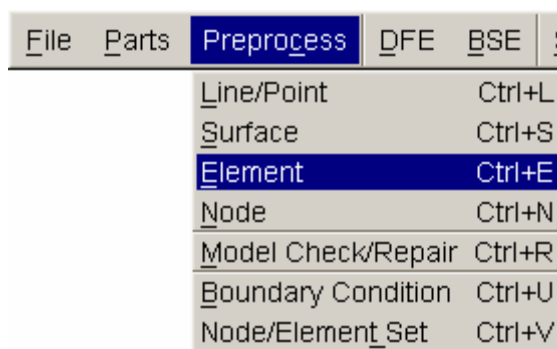

Figure 5.11 Element menu
2. Select **Preprocess**→**Elements**. See Figure 5.11.